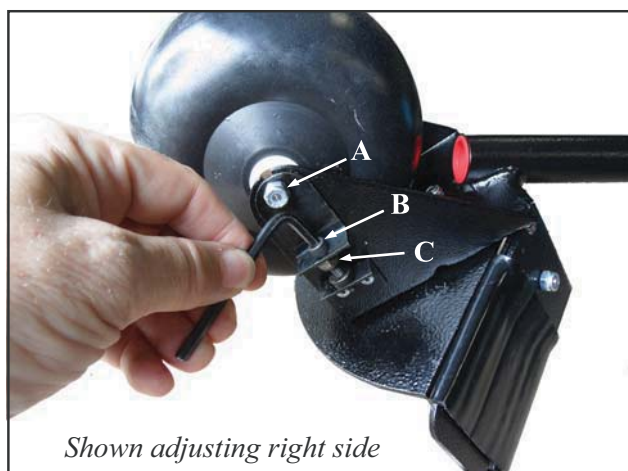

Figure 15
3. Loosen the axle nuts (A), on both sides of the wheel assembly, using two nut drivers. If the 'Kaddy is drifting to the right, simply unscrew the adjusting screw (B) on the right side a half turn using the 5/32" Allen Key provided (See figure15).